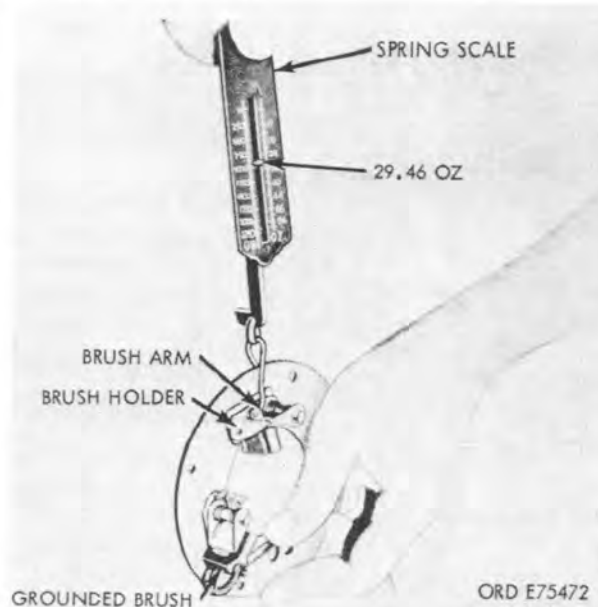

Figure 4-21. Checking brush spring tension.
- (2) Inspect brushes for cracks, damaged or loose leads, oil soaked condition, or wear beyond dimensions specified in Wear Limits (para. 4-18). Replace damaged or unserviceable brushes.
- (3) Test the brush holder assembly for a ground by touching one test probe of continuity tester to the insulated brush holder and other probe to the plate. If a ground is indicated, discard brush holder assembly.
- (4) Check brush spring tension as shown in figure 4-21 by hooking spring scale in hole in end of brush arm. Pull on a line perpendicular to the brush arm and take reading when arm is slightly above brush holder. If spring tension is not within limit specified in paragraph 4-18, replace spring.